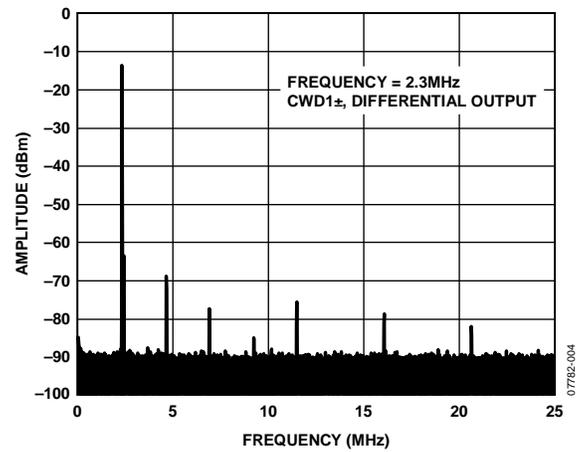

Figure 20. Typical Spectrum Analyzer Display of CWD Output
- Examine the spectrum analyzer for the CW Doppler output (see Figure 20 for an example).